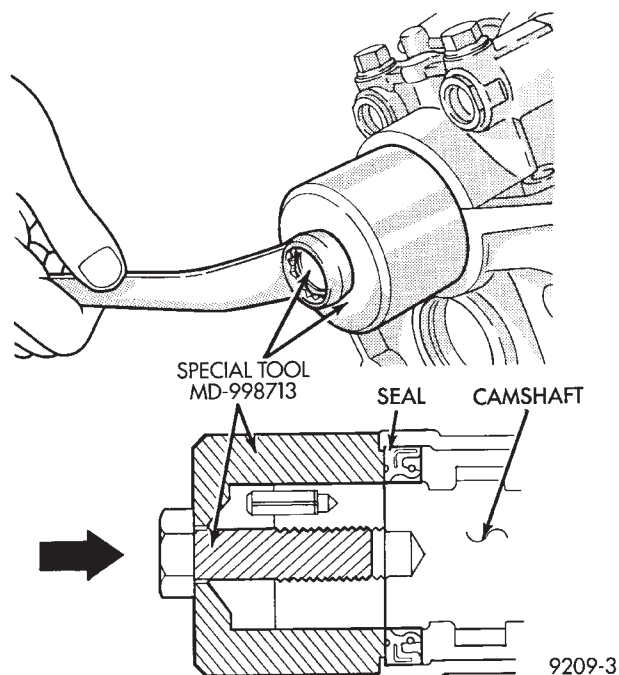
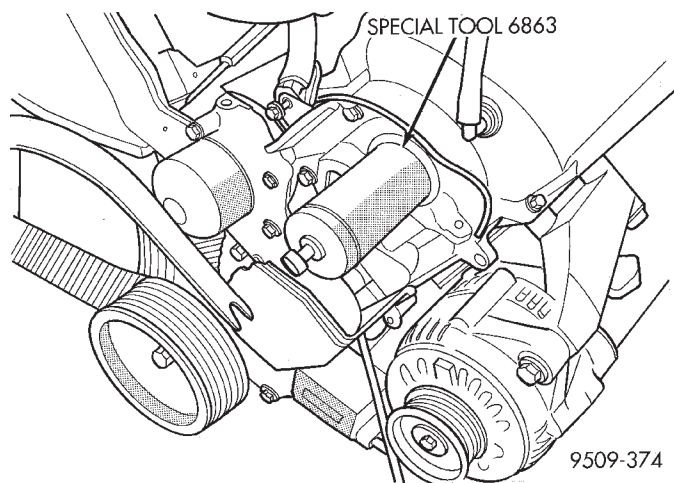

Fig. 60 Right Cylinder Head—Installing Camshaft Oil Seal
Fig. 61 Left Cylinder Head—Installing Camshaft Oil Seal
- (1) Apply light coat of engine oil to the camshaft oil seal lip.
- (2) Install the oil seal using Special Tool MD998713 or 6863 camshaft oil seal installers (Fig. 60) and (Fig. 61).